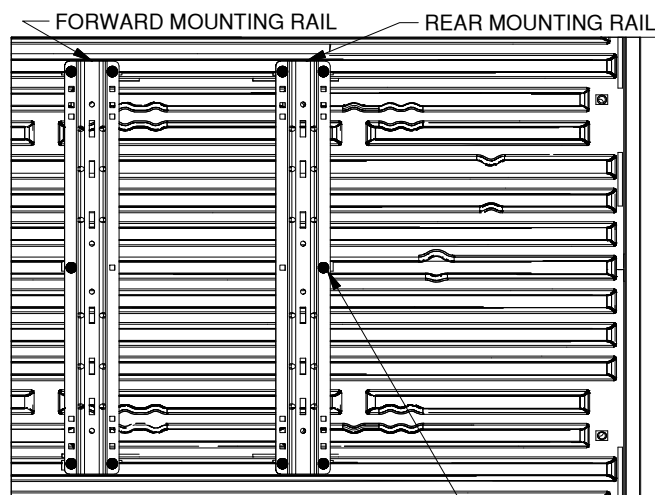

Figure A2: Detail view over bed, showing drill locations for the forward and rear bed rails. DRILL LOCATIONS HIGHLIGHTED BY BLACK DOTS
- 2. Mark hole locations:** While carefully ensuring the mounting rail does not move, use a center punch tool to mark the 5 drill locations on the rear rail. See figure A2 for hole marking locations for this installation (forward rails will install on a later step). Once all 5 rear rail locations are clearly marked, move the bed rail out of the way and drill each location with an 1/8" drill.
3. **Drill forward mounting holes.** Using the same methods as used for the rear mounting rail, mark, drill, check, and enlarge the holes for the forward mounting rail. Refer to "DRILL REAR MOUNTING HOLES" section, steps 2 through 4, on a previous page. Notice that the hole locations are slightly different than the rear rail, see figure A2 (on the second page).